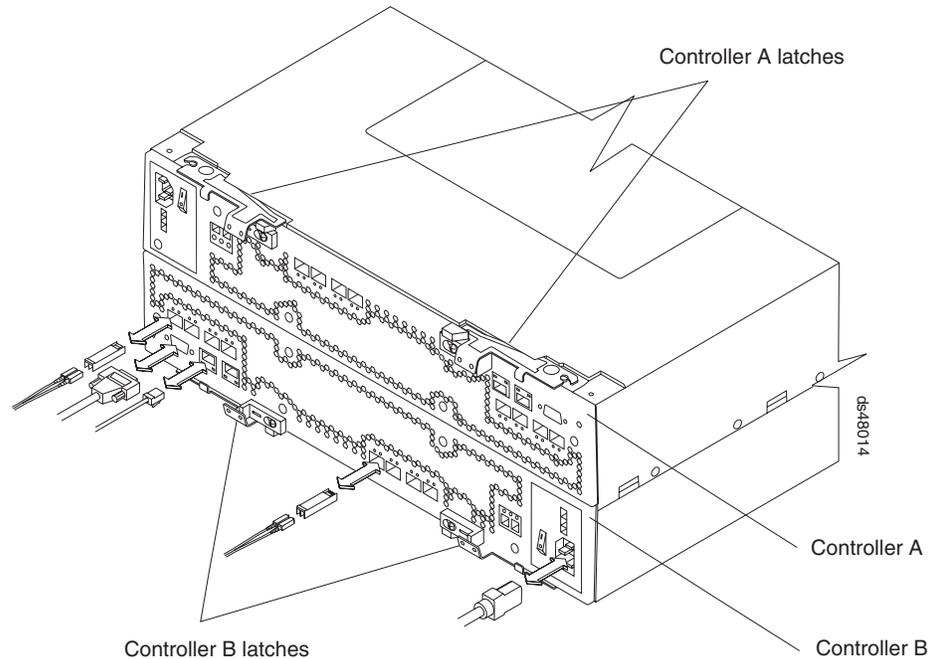

Figure 4. Controllers in the storage subsystem
The DS4800 has two RAID controllers. Both controllers are identical and interchangeable. The controllers install from the rear of the storage subsystem. The upper controller is controller A; the lower controller is controller B. All connections to the hosts and the drives in the storage configuration are through the controllers. Figure 4 on page 9 shows the controllers in the DS4800.
**Note:** Although both RAID controller units (A and B) in the DS4800 are identical, they are seated in the DS4800 chassis in opposite orientations. As shown in Figure 4 on page 9, the controller units must be inserted in the DS4800 so